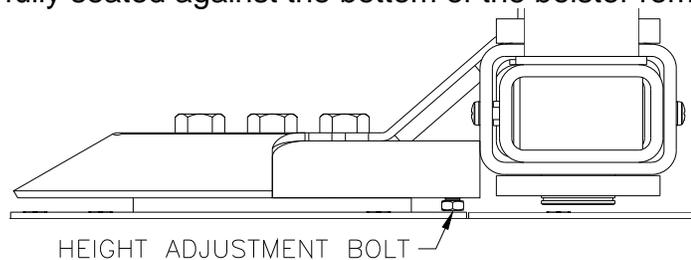

Fig. 11
25. With the lift lowered, arms extended fully and foot pad in the lowest position, check clearance of the foot pad screw to ensure it does not make contact with the floor. Use the height adjustment bolt (see figure 11) to either raise or lower the bolster as necessary. If there is more than 3/8" of clearance on both screws with the bolt fully seated against the bottom of the bolster remove the bolt.